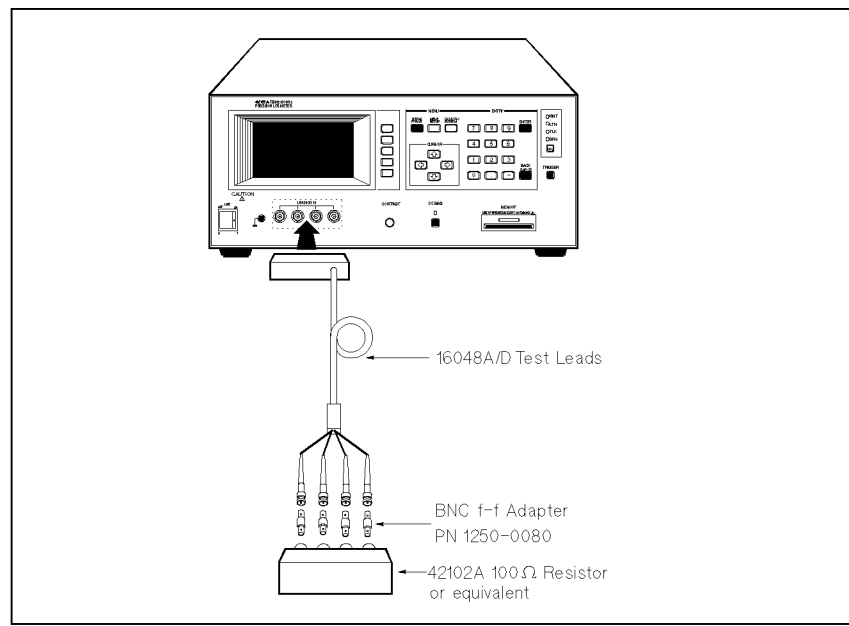

Figure 3-20. 100 Ω Resistor Connection
11. Connect the 42102A 100 Ω Resistor (or the furnished 100 Ω Resistor Box) and the 16048A/D test leads with the furnished BNC f-f adapters as shown in Figure 3-20.